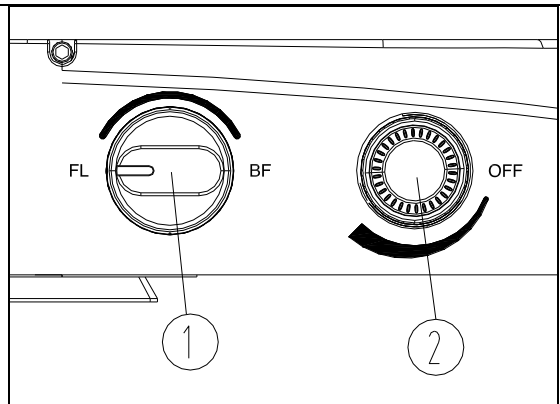

Fig. 34
8. The LED fluorescence filter block adjustment knob ① can be rotated 180° in the direction of the arrow to change between transmitted brightfield and LED fluorescence illumination and observation. FL means fluorescence observation, and BF means brightfield observation. (See Fig. 34)
9. Illumination Intensity: Rotate the adjustment knob ② in clockwise to turn on the LED fluorescence lamp is turned on – the knob will click when the LED lamp turns on. Rotate the knob clockwise to increase the FL LED intensity; Rotate the adjustment knob ② counterclockwise to reduce the brightness of the LED fluorescence lamp. To turn off the FL LED lamp, continue to turn the knob counterclockwise until it clicks. (See Fig. 34)